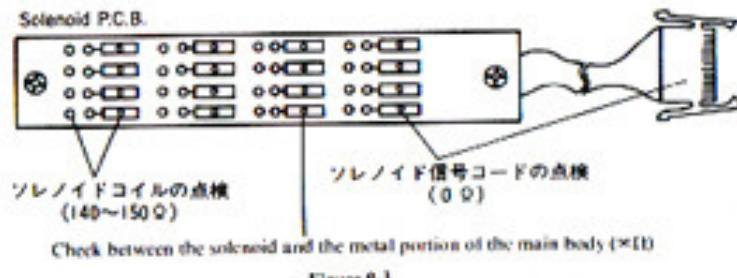

Figure 9-3
- ③ Disconnect the needle selector solenoid unit (refer to on P.45 item 11). Check the resistance values of the places which correspond to the solenoids on the solenoid PC board which were found to be bad. The resistance value of the solenoid coil should be between 140 - 150 Ω, the resistance value of the solenoid signal cord should be 0 , and the resistance value of the metal portion of the main body and the solenoid should be $\infty\Omega$ (refer to figure 9-3).